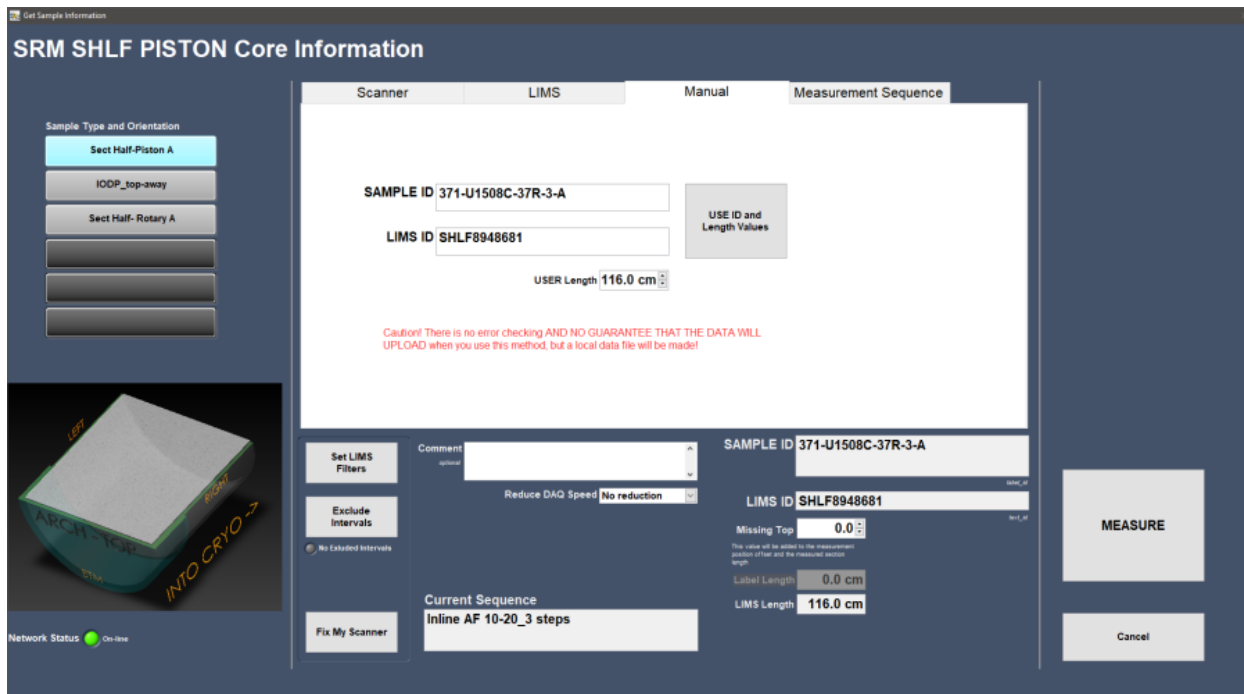

Figure 11. Manual Entry Sample Information window.
- Verify the *LIMS Length* matches the section length and verify the *Sample ID* is correct. If the LIMS Length does not match the actual section length after the bar code is scanned, select the Manual tab (*Figure 11*). Adjust the USER length to match the actual core length and select Use ID and Length values.